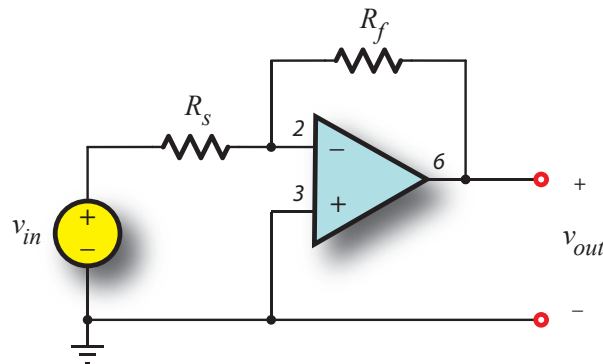
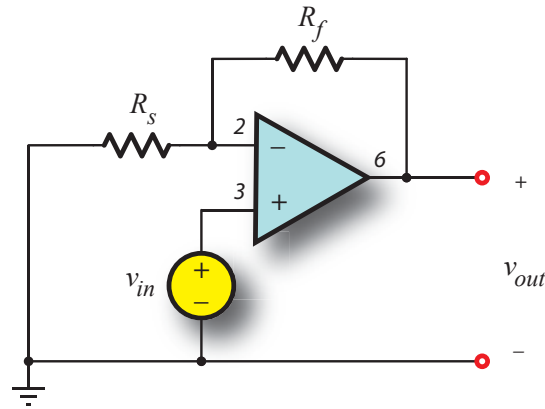

Fig. 1. The inverting amplifier configuration
Fig. 2. The non-inverting amplifier configuration
An op-amp is a differential amplifier circuit with a very high *open-loop* gain, A . Although not directly useful on its own, the op-amp is mostly used in circuits designed to utilize negative feedback. Some of the circuits that we have investigated are the *inverting amplifier* shown in Fig. 1 and the *non-inverting amplifier* shown in Fig. 2.
1. Derive an expression for v_{out} in terms of R_s , R_f , and v_{in} in Fig. 2.
1. Construct the non-inverting amplifier circuit shown in Fig. 2 using the values $v_{in} = 5$ V, $R_f = 1K\Omega$, and $R_s = 2.2K\Omega$. Use the 5 V source on the breadboard.